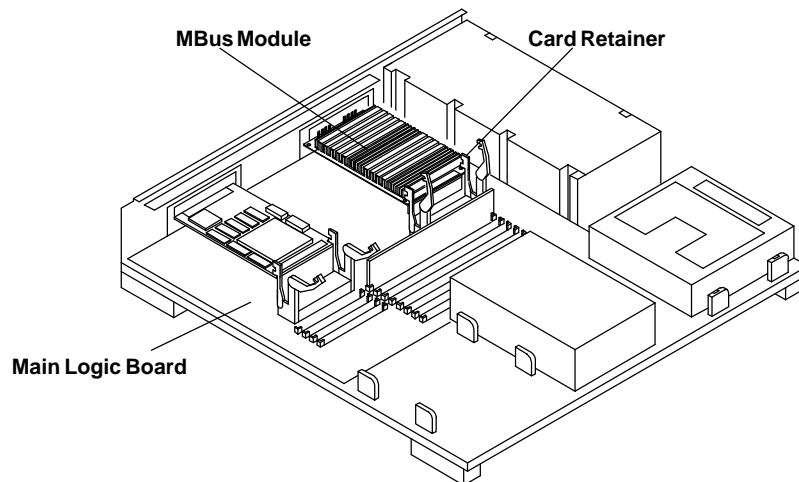

Figure 3-12. Locking Down Card Retainers for the MBus Module
6. Lock the arms of the card retainers on the module by pushing them over the edge of the module as shown in Figure 3-12.